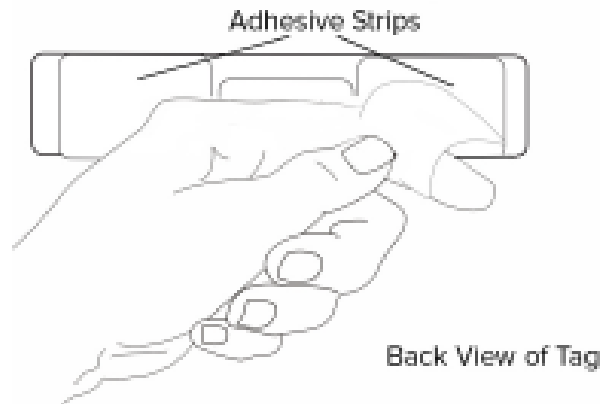

Figure 4 – Exterior tag with adhesive strip
2. Remove the backing from both adhesive strips located on the back of the tag, as shown in Figure 4.